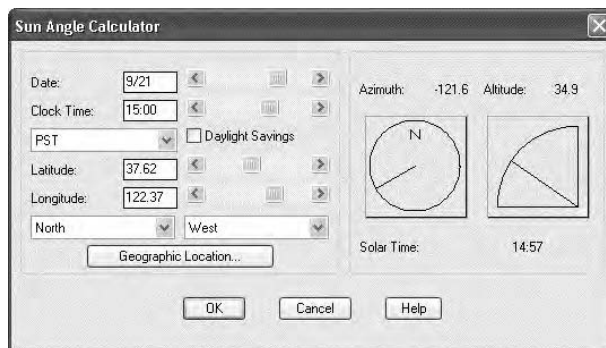

FIGURE A.31: The Sun Angle Calculator dialog box
3. Enter Sunlight for the Light Name, and then click the Sun Angle Calculator button to open the Sun Angle Calculator dialog box (see Figure A.31).